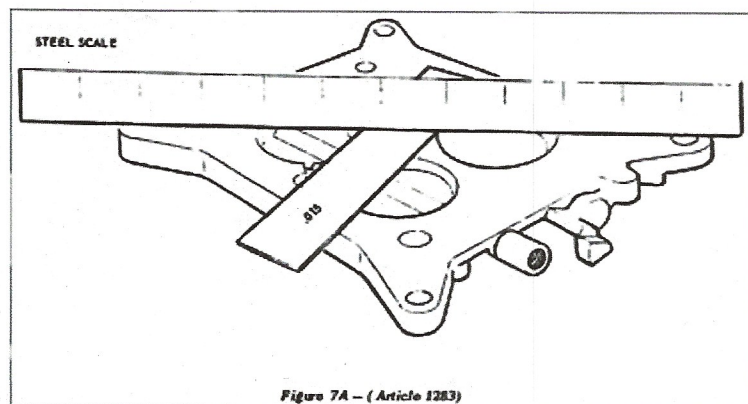
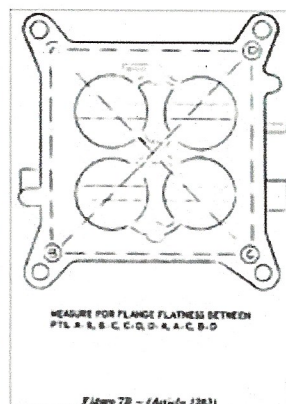

Fig. 7A
Fig. 7B
3. Carburetor Base Surface — Check the flatness of the carburetor base by using a 12 inch steel straight edge and feeler gauges as illustrated in Fig. 7A. Measure the flatness six (6) ways (Fig. 7B) (diagonally, each side from front to rear, and front and back from side to side). The flatness should be within 0.015 inches.